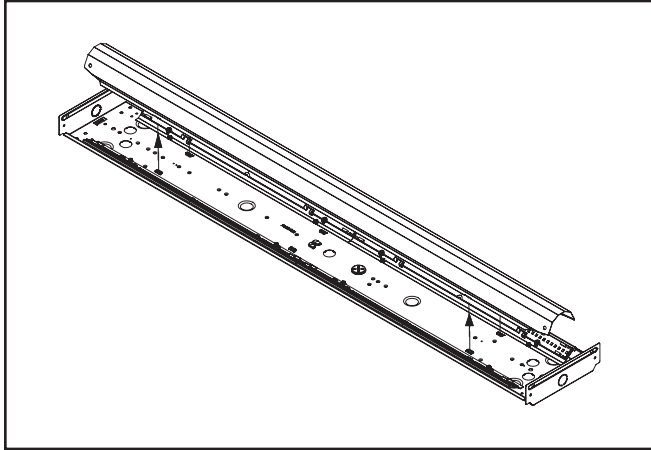

Figure 2.
3. Remove driver cover (Figure 2).